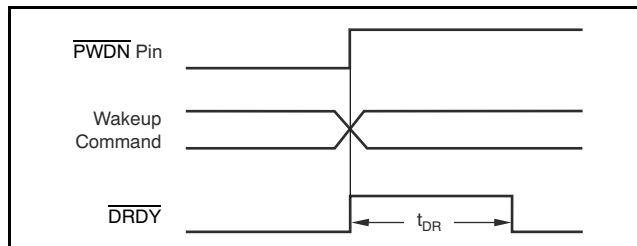

Figure 55. PWDN Pin and Wake-Up Command Timing
In power-down, note that the device outputs remain active and the device inputs must not float. When the Standby command is sent, the SPI port and the configuration registers are kept active. Figure 55 and Table 11 show the timing.
(1) See Figure 55 and Table 11 for time to new data.